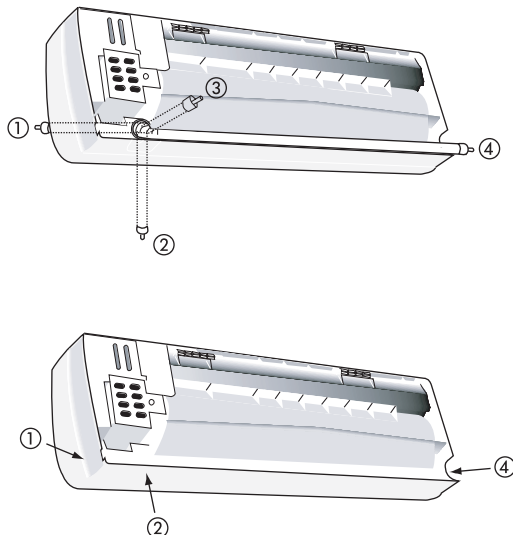
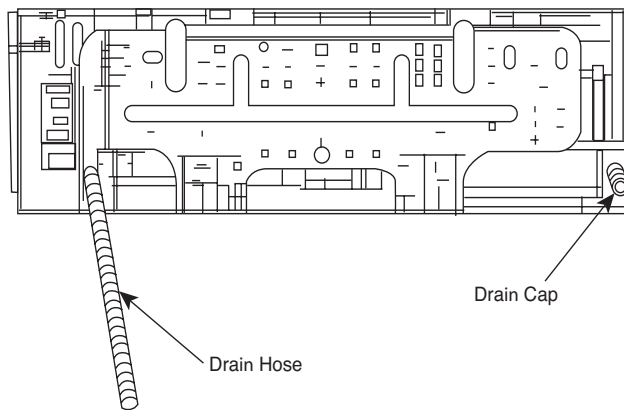

Fig. 4 — Indoor Unit Piping Configurations
Fig. 8 — Location of Drain Hose and Cap
Step 2 — Mount Unit — Before mounting the 40QNC, QNQ unit on the wall with a wall hanging bracket, consider how the unit will be connected to the refrigerant piping. The indoor unit can be connected in four ways. Refer to Fig. 4 for connection options. When the piping is connected to points 1, 2 or 4, remove the knockout either at the side or at the bottom of the unit.
Step 3 — Complete Refrigerant Piping Connections — When running the piping for indoor units the piping can be connected as rear piping or side or bottom piping. Refer to Fig. 4.
ROUTING THE DRAIN HOSE AND REFRIGERANT PIPING 6 The drain hose and drain cap are assembled as shown in Fig. 8 in the factory. To do right-side (①), right-bottom (②) or right-back (③) piping in Fig. 4 draw the drain hose to right-side piping direction. (It is not always necessary to exchange the location of drain hose and drain cap.)